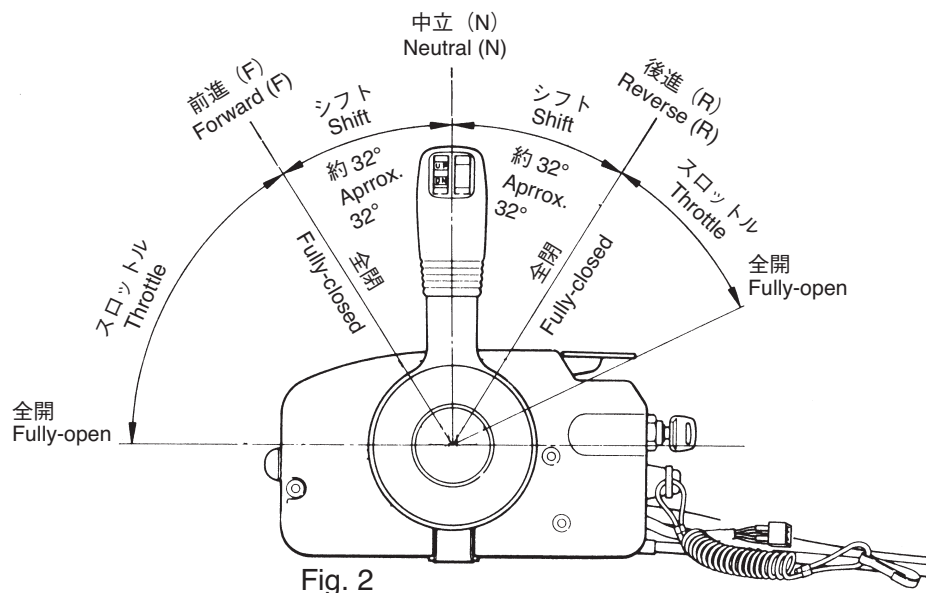

Fig. 2
(1) 前進・後進 (Fig.2)
(1) Forward and Reverse (Fig. 2)